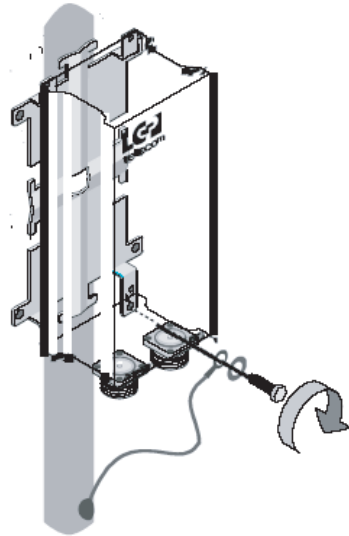

Figure 2-4 Grounding connection
Figure 2-4 shows how the hose clamps surround a vertical mast and fit into the corresponding openings of the TMA's mounting plate. The same applies to the clips, except where the hose clamp is fed through the square holes of the clip.
2. Move steel band into openings of TMAs mounting equipment (see Figure 2-4, right unit). For earlier TMA versions, close hose clamps loosely around pole and move steel band of hose clamps gently into openings of TMA's mounting equipment. See Figure 2-4, left unit.